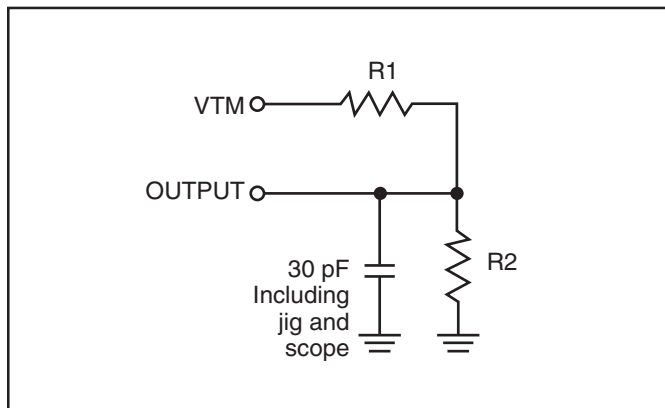

Figure 1
Output Load	See Figures 1 and 2
1. Test conditions assume signal transition times of 5 ns or less, timing reference levels of 1.5V, input pulse levels of 0.4V to  $V_{DD}-0.3V$  and output loading specified in Figure 1.
1. Test conditions assume signal transition times of 5 ns or less, timing reference levels of 1.5V, input pulse levels of 0.4V to VDD-0.3V and output loading specified in Figure 1.